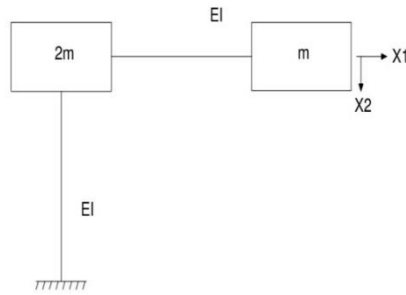

Figure.2
3. Determine the natural frequencies shown in Figure .2.